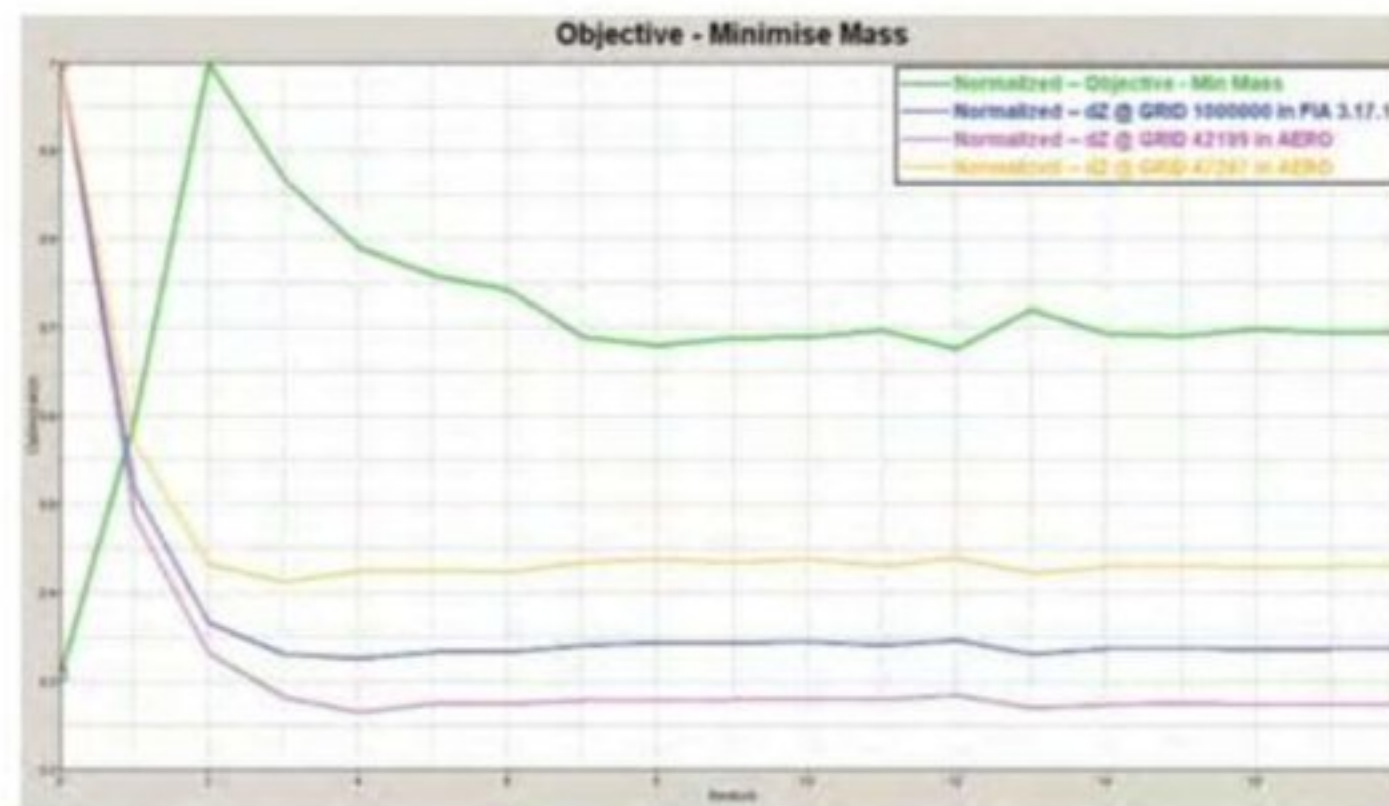

Figure 3: Normalised Convergence Curves
- **The analysis converged in 14 iterations (see Figure 3)**